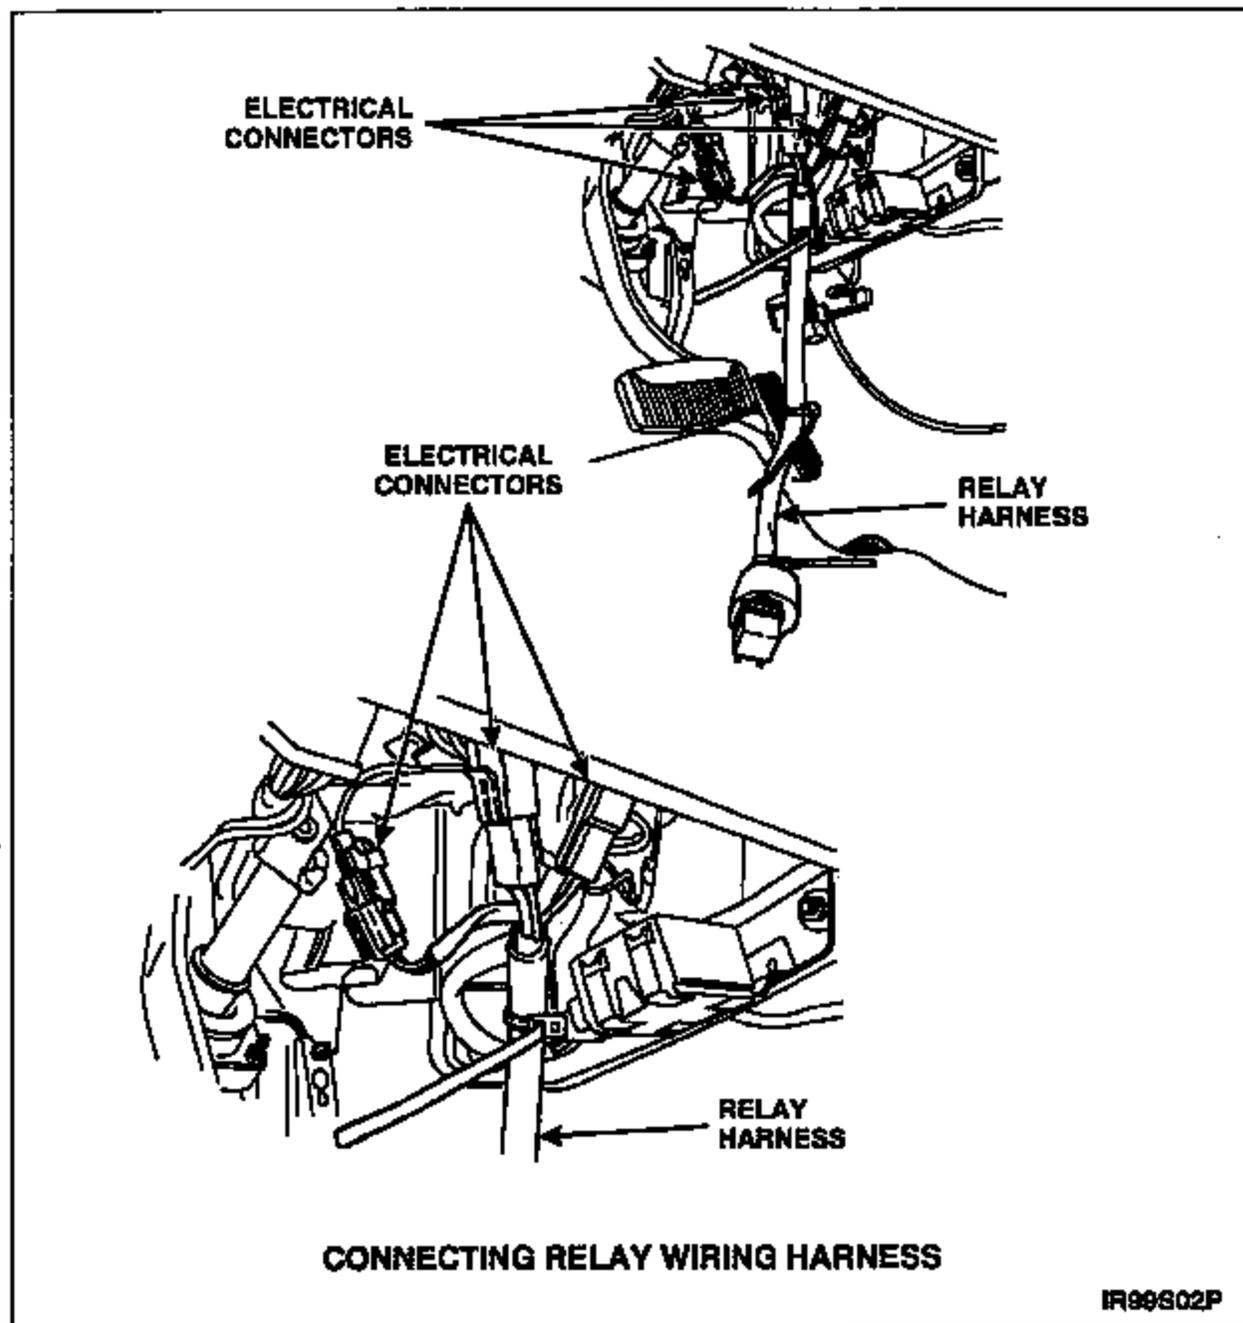

FIGURE 16
25. Connect relay harness to the three (3) open electrical connectors. Connector halves will only mate with their correct opposite halves. See Figure 16.